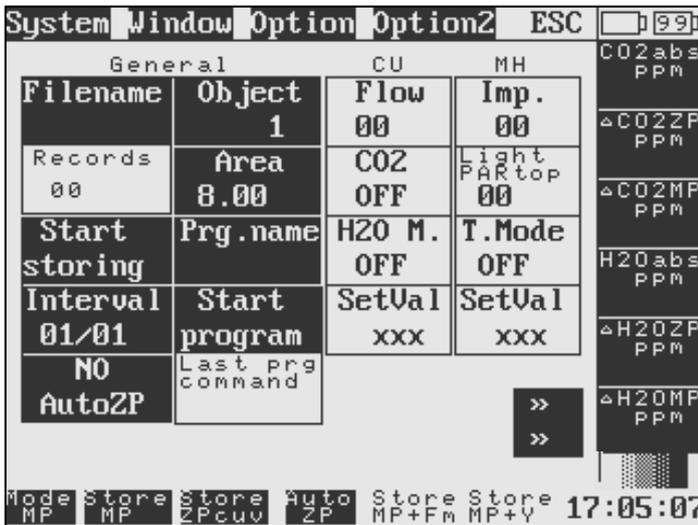

Fig. 1: Panel PC surface after the power has been switched on, but also showing the bottom-bar, which only appears after the Measure Mode has been switched on.
After the *GFS-3000* power has been switched on and the software has been loaded, the display shows the *Settings window* (see Fig. 1).
- The central window displays chosen windows or chosen sub-menus and dialogs. In Fig. 1 the Window *Settings* is displayed.
The *Settings window* opens automatically after the start of the system (see Fig. 1). In general clicking on the parameter whose value has to be